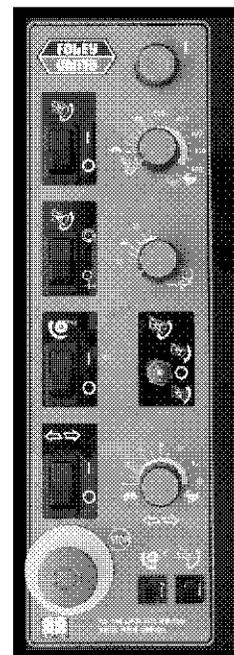

FIG. 64
- I. With the spin drive running at 200 RPM, turn on grinding wheel motor on main control panel. Verify that the spin rotation is the same as the grinding wheel, clockwise, looking at the right end of the reel from the operators position. Now slowly infeed the grinding wheel until it just make contact with the reel. See FIG. 64.